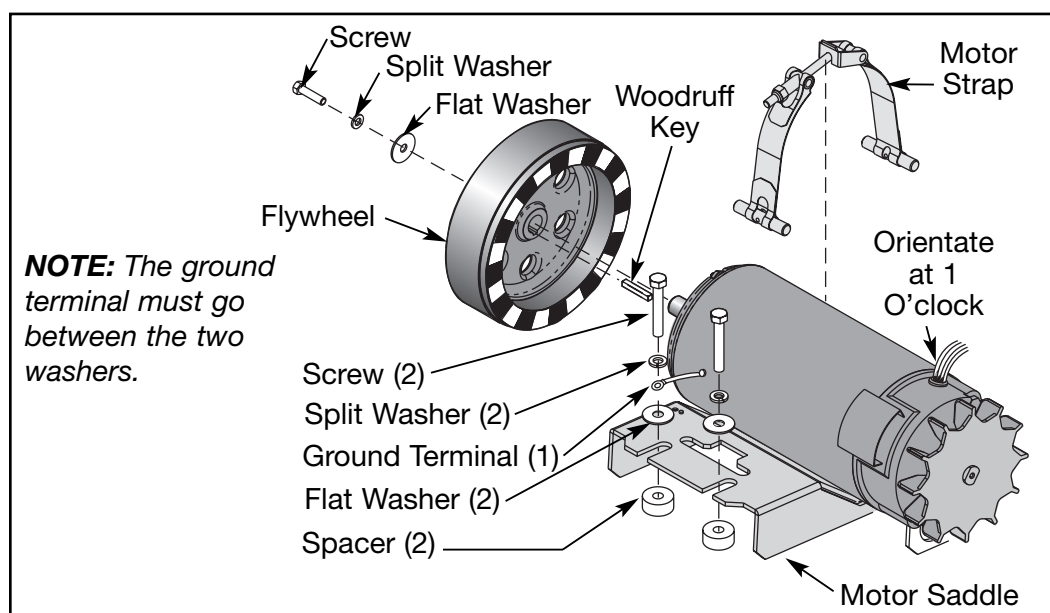

Figure 12
- A. Using a 7/16" socket wrench, remove the flywheel, screw, washers and woodruff key from the old motor. See Figure 12.
- B. Place the flywheel in position on the new motor and slide the woodruff key into the slot on the flywheel. See Figure 12.
- C. Using a 7/16" socket wrench, tighten the flat washer, split washer and screw that hold the flywheel on the motor. See Figure 12.
- B. Place the flat washer on the motor saddle and follow it with the ground terminal, split washer and screw. See Figure 12. **NOTE:** Be sure that the spacers are still in place below the saddle.